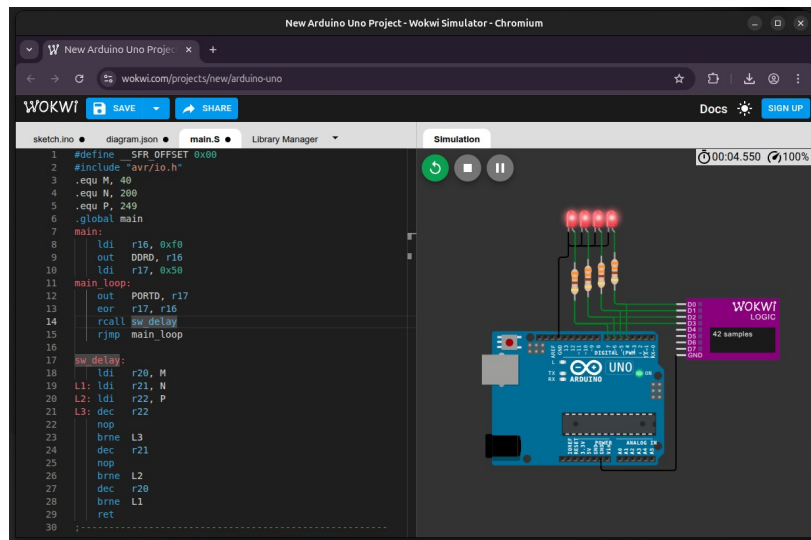

Figure 1: Wokwi Simulator & Circuit Diagram for Lab 1
1. Create a new project in **Wokwi Simulator** (<https://wokwi.com/projects/new/arduino-uno>) as shown in **Figure 1**.